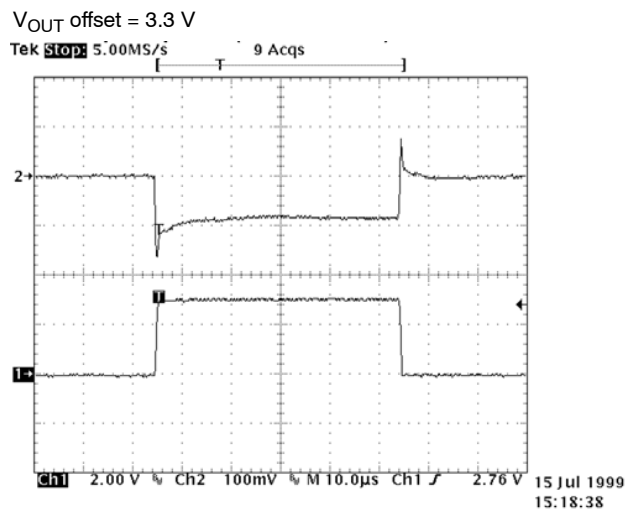

Figure 10. Load Step Response
**Load Step Response.** Figure 10 shows the output response of the regulator during a step load change from 5 mA to 500 mA (represented on Ch1). An initial transient overshoot of 50 mV occurs and the output settles to its final voltage within a few microseconds. The dc voltage disturbance on the output is approximately 75 mV, which demonstrates the regulator output impedance of 0.15 Ω.